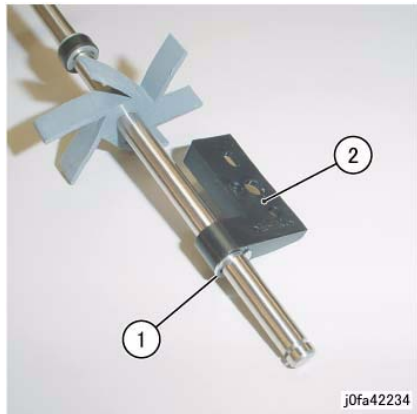

Figure 6 Removing the Support Bearing
10. Remove the Support Bearing from the Main Paddle Shaft Assembly (Figure 6):